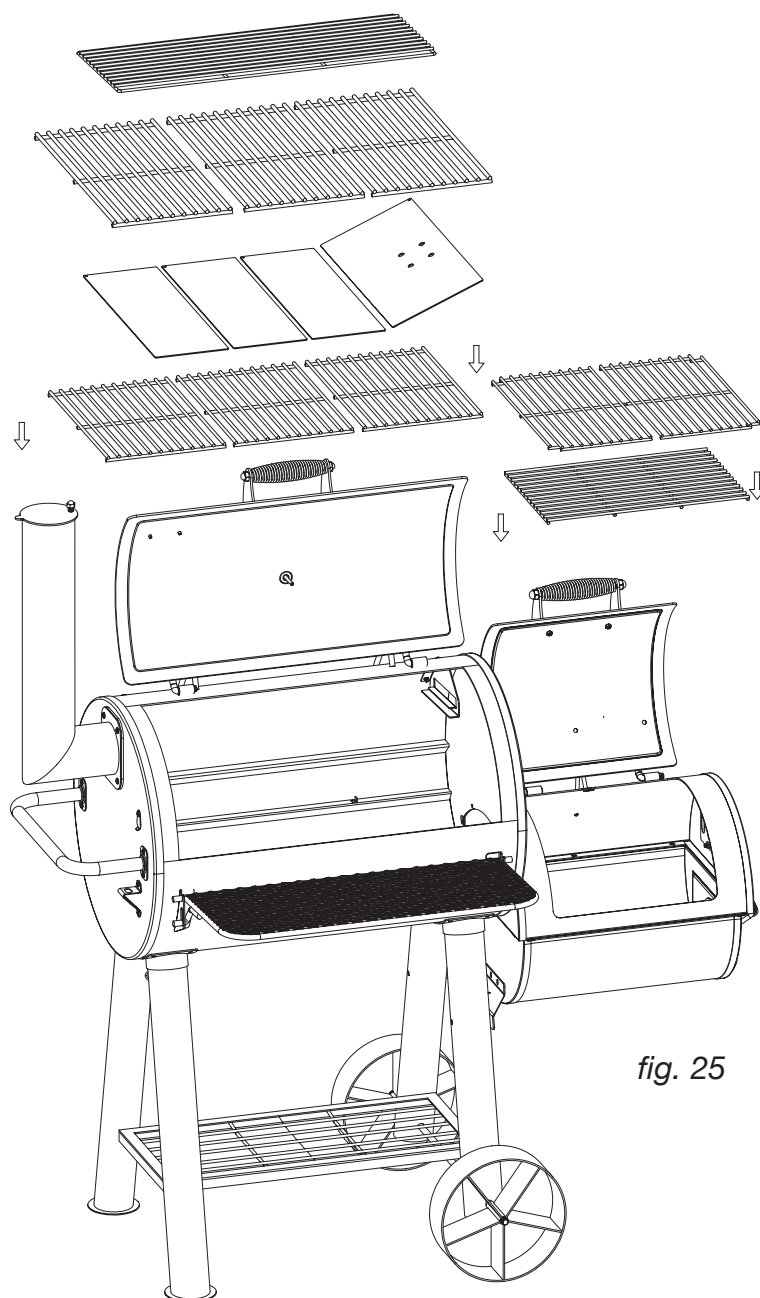

fig. 25
- Fit the 3 Charcoal Grates into the bottom of the Cooking Chamber as shown in fig. 25.